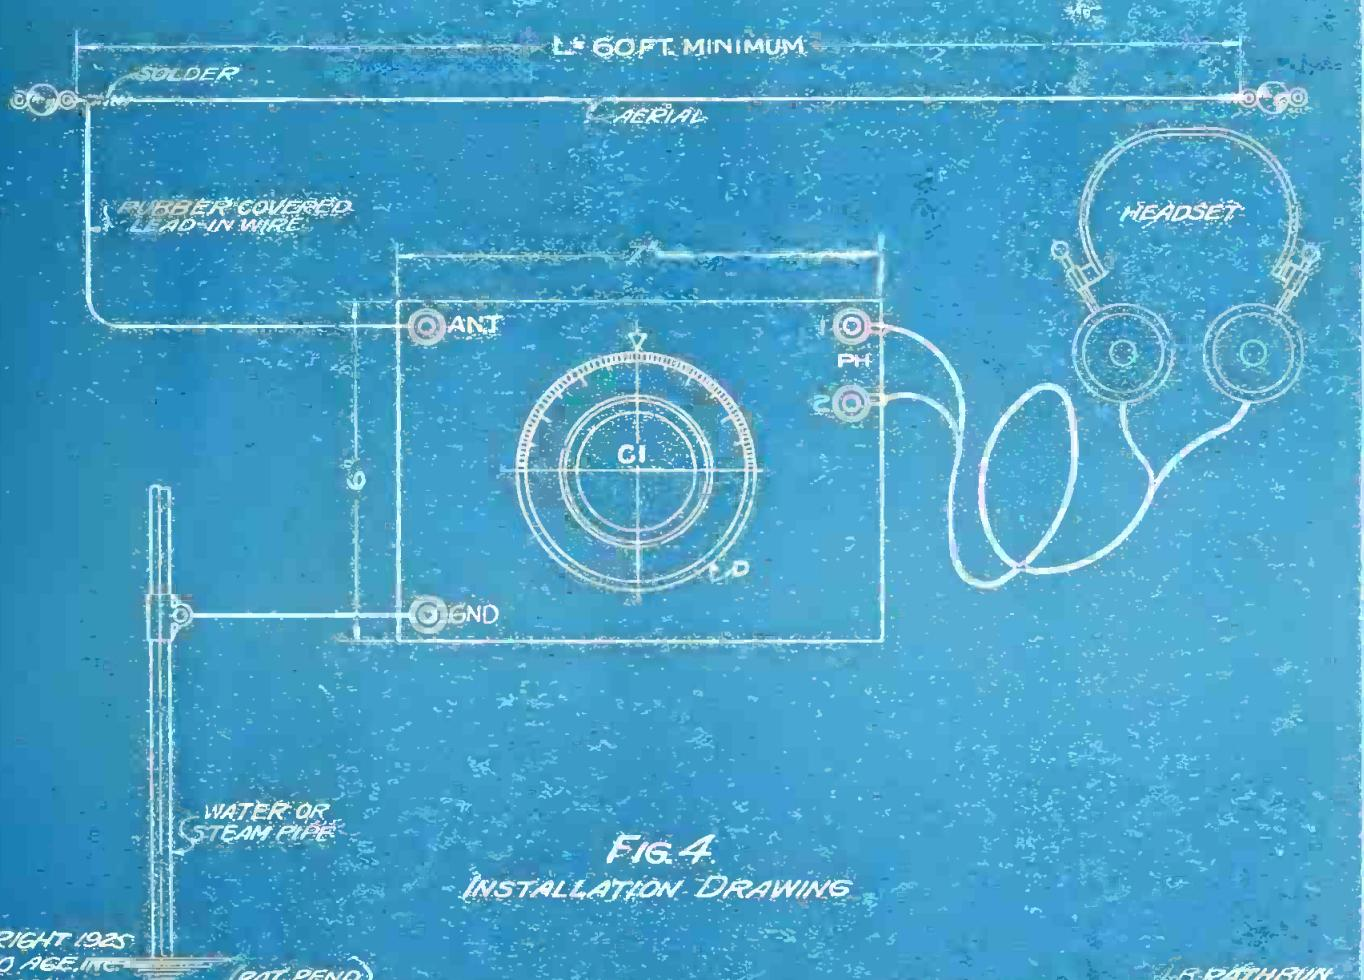

FIG. 4.
It is most convenient to mount the apparatus on a 6 in. x 7 in. x 3-16 in. panel as shown by Fig. 4 with the tuning dial (D) appearing on the front of the panel as shown. The aerial binding post is at ANT, the ground connecting post at GND, and the phone posts at PH. The method of connecting to the aerial and ground is also shown in this view, the ground being a connection to a water or steam pipe.